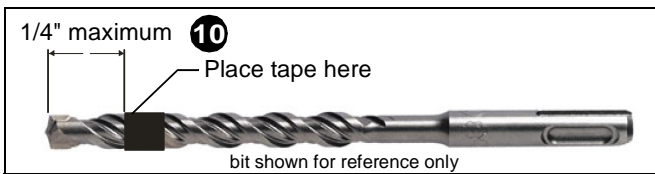

Figure 6
10. Measure 1/4" up the shaft from cutting end of drill bit and wrap with tape to create a drill depth indicator. (See Figure 6)